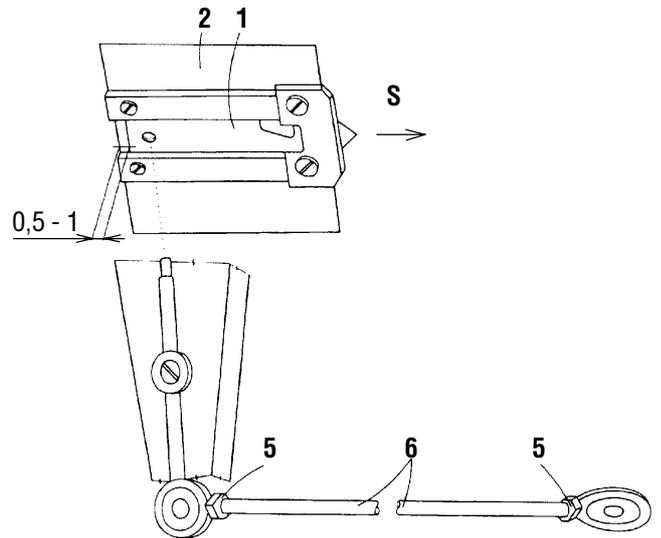

Fig. 24
26. Setting of the starting position of the movable thread cutter (Fig. 24, 25)
31. Dismounting and mounting of the movable cutting knife (Fig. 24)